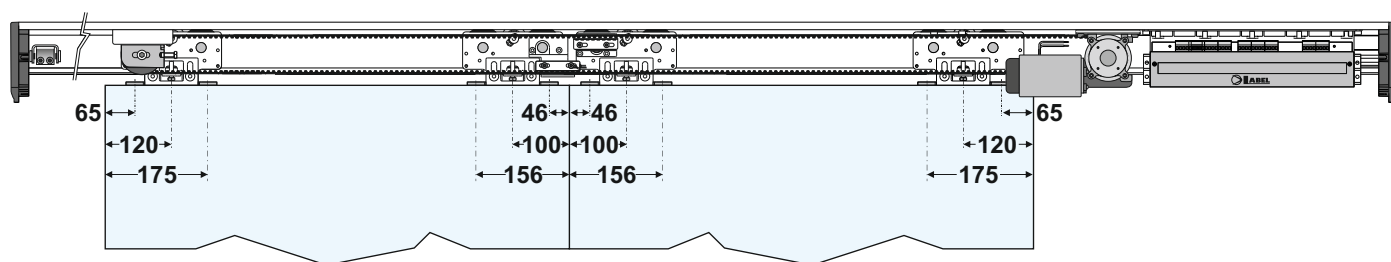

FIG.11
- Fasten the movable part "C" you removed to the fixture at the distance indicated in figure 11, if an electric lock is not installed, or in figure 12 if the electric lock is installed.
- Adjust the height of the opposing wheel by operating the adjustment screw (D) so that the wheel skims the top inner part of the transom, but without exerting any pressure.